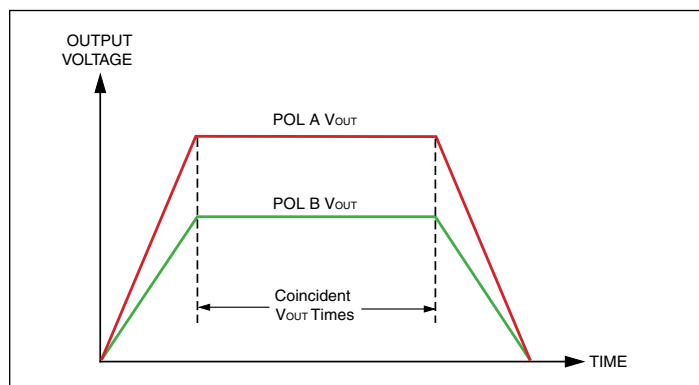
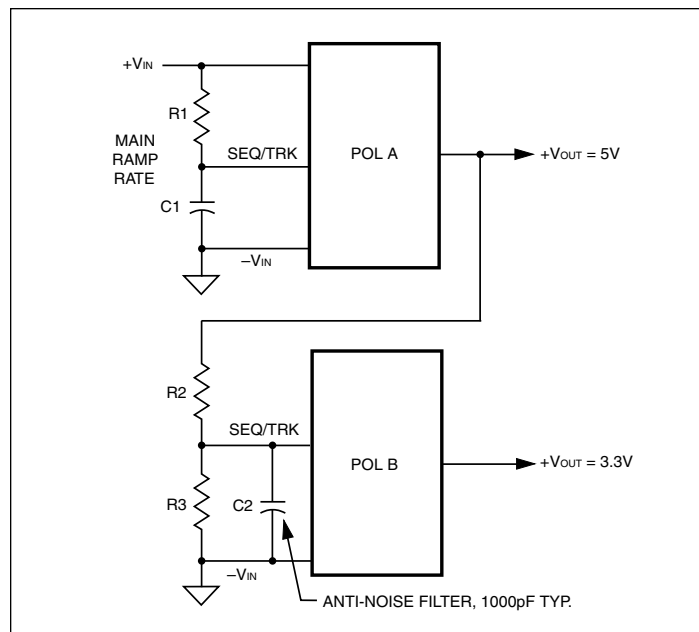

Figure 9. Proportional or Ratiometric Phasing (Identical Vout Time)
Figure 14. Proportional Phasing
Figure 9 shows two POLs with different slew rates in order to reach differing final voltages at about the same time.
Figure 14 shows both a RC ramp on Master POL A and a proportional tracking divider (R2 and R3) on POL B. We have also added an optional very small noise filter cap at C2. Figure 14's circuit corresponds roughly to Figure 9's timing for power up.
- [7] The Sequence is a sensitive input into the feedback control loop of the converter. Avoid noise and long leads on this input. Keep all wiring very short. Use shielding if necessary. Consider adding a small parallel ceramic capacitor across the Sequence/Track input (see Figure 14) to block any external high frequency noise.